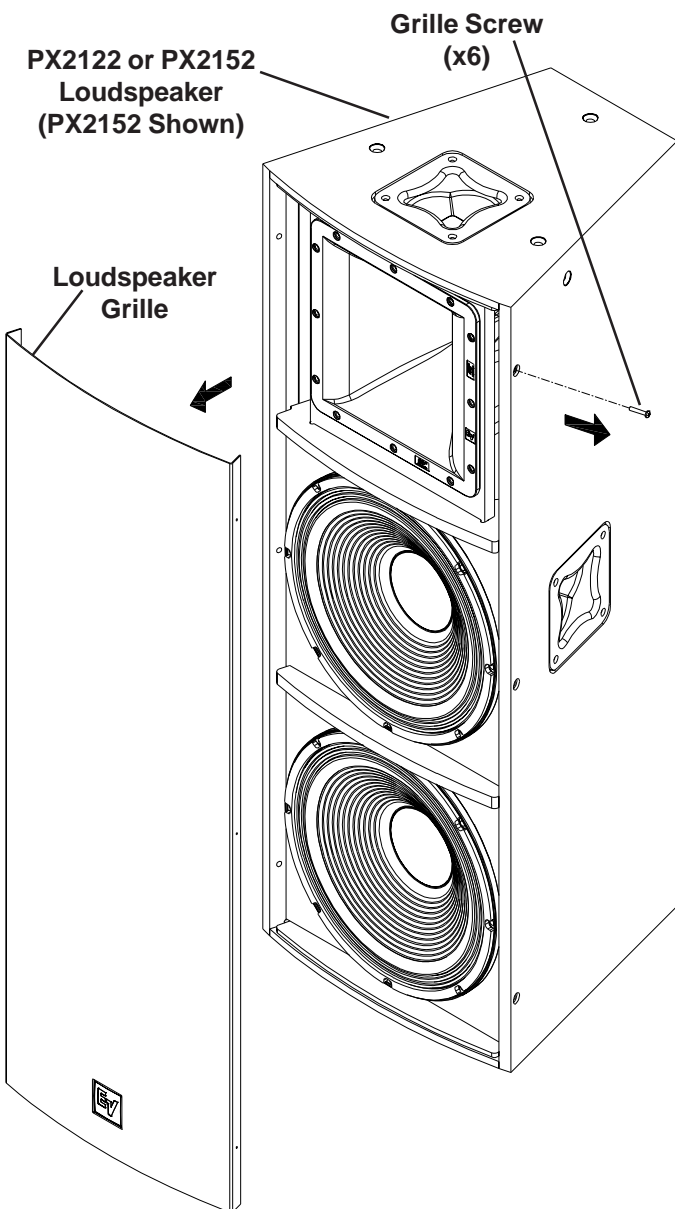

Figure 2:
1. Remove the (6) screws that attach the grille to the enclosure (Figure 2).
5. Reattach the grille using the (6) screws (reverse of Figure 2).